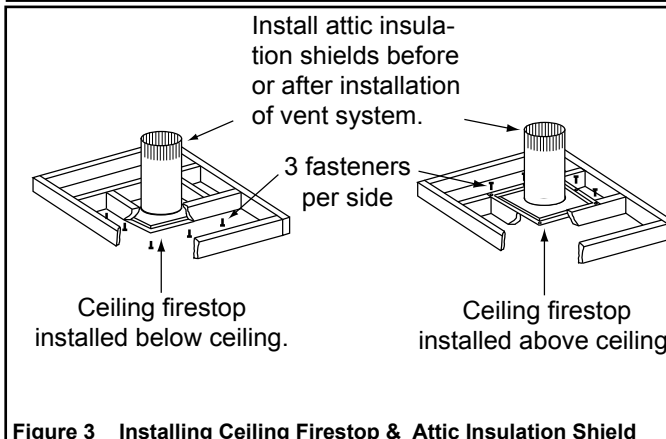

Figure 3 Installing Ceiling Firestop & Attic Insulation Shield
- The ceiling firestop may be installed above or below the ceiling. Refer to Figure 3.